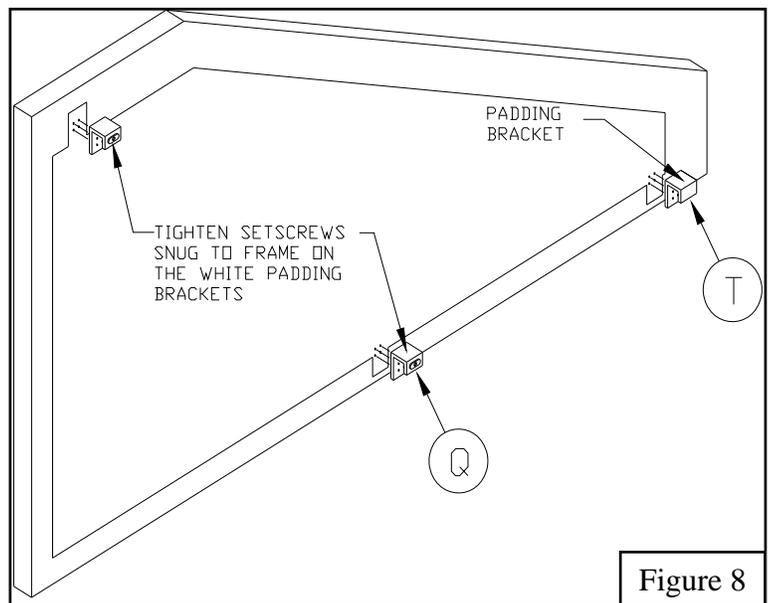

Figure 8
11. If the *Backboard (J)* is leaning back and is not perpendicular in the playing position, lower the unit to the storage position, leaving the front leveler screws in the same position and proceed.
12. Remove the *Backboard Braces (E)* to avoid backboard breakage. Readjust the *Backboard (J)* with the leveling screws as described in step 6.
13. When adjusted, raise the unit to playing position, re-measure the *Breakaway Goal (L)* height.
14. When the *Backboard (J)* and *Breakaway Goal (L)* are level and perpendicular at the official 10' height you can reinstall the *Backboard Braces (E)* as described in step 10.
15. Using the 1/4" X 3/4" Flat Head Screws (O) install the White Padding Brackets (Q) on the Front and Side Pads (N). On the side pads, install the White Pad Brackets (Q) on the top and middle of the pad. Use the Gray Pad Bracket (T) at the end of the pad. Install Front, Side and Arm Pads (N) to Portable Base Assembly (A). Tighten all setscrews on the White Padding Brackets (Q) snug against frame. See Figure 8.